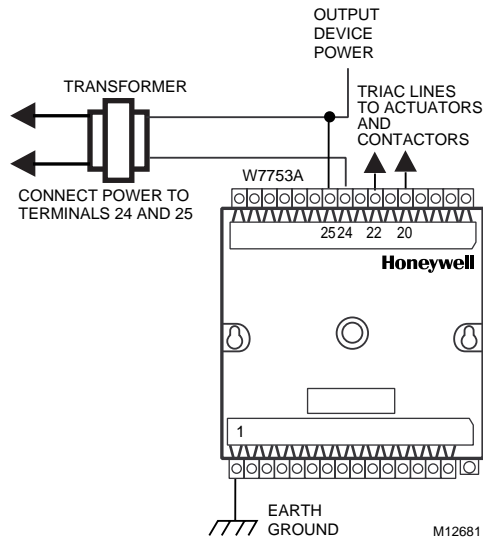
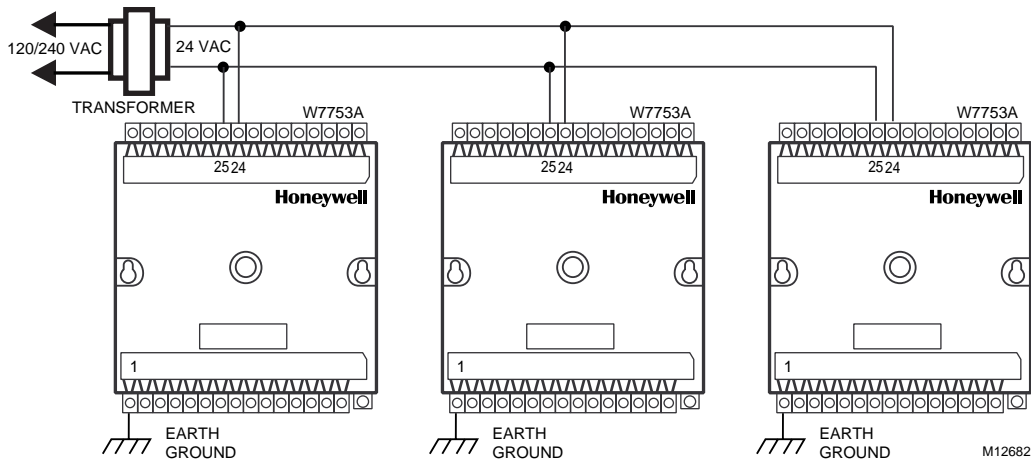

Fig. 4. Power wiring details for one Excel 10 per transformer.
Fig. 5. Power wiring details for two or more Excel 10s per transformer.
- For multiple controllers operating from a single transformer, the same side of the transformer secondary must be connected to the same power input terminal in each controller. The ground terminal (1 on the W7753A) must be connected to a verified earth ground for each controller in the group, see Fig. 5. (Controller configurations are not necessarily limited to three controllers, but the total power draw including accessories cannot exceed 100 VA when powered by the same transformer (U.S. only). See System Engineering form, 74-2964 for power wiring recommendations.)
A transformer that meets CE mark requirements and that meets the Low Voltage Directive (LVD) requirements must be used in Europe for all installations of this product. More than one W7753A Controller can be powered by a single transformer. Fig. 4 shows power wiring details for a single controller and Fig. 5 depicts multiple controllers using one transformer.
- 24 Vac power connections. Verify that multiple controllers powered by the same transformer are wired with the transformer secondary connected to the same input terminal numbers on each W7753A. See Fig. 5. (Controller configurations are not necessarily limited to three controllers, but the total power draw including accessories cannot exceed 100 VA when powered by the same transformer (U.S. only). See System Engineering form, 74-2964 for power wiring recommendations.
- Controller wiring. Be sure that each controller is wired (terminal 1) on the W7753A to a verified earth ground using a wire run as short as possible with the heaviest gauge wire available, up to 14 AWG (2.0 mm2) with a minimum of 18 AWG (1.0 mm2) for each controller in the group. See Fig. 4.